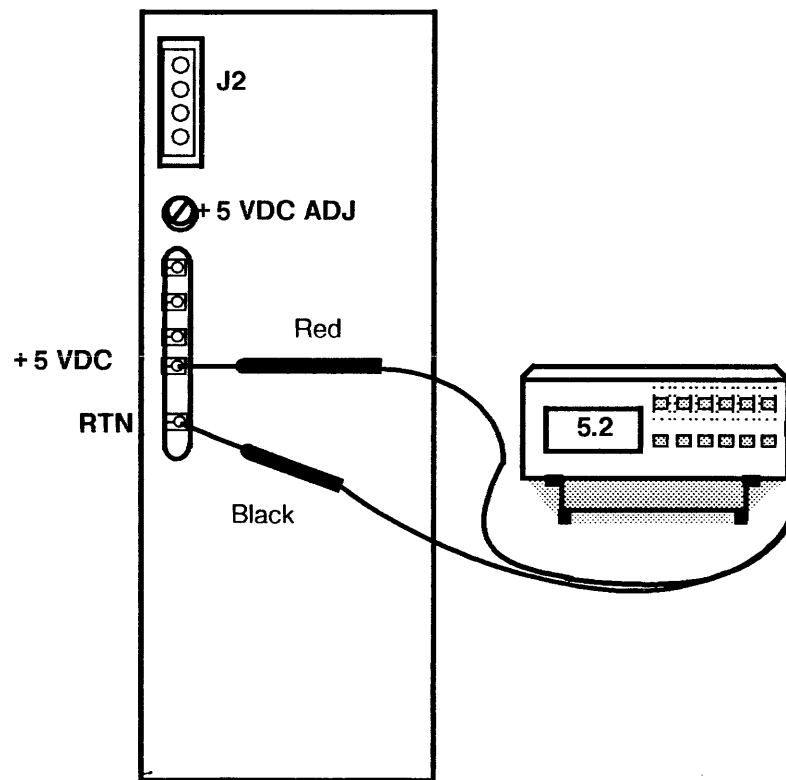

Figure 7. +5 VDC Check
2. Connect the meter leads to the test points (Figure 7). It is not necessary to remove the rear cover to perform this check.